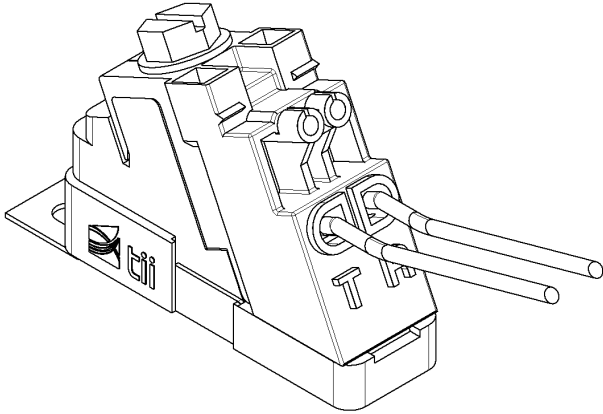

Figure 3
3. Raise driver bolt mechanism to full up position by turning the driver bolt counter-clockwise. Insert wires, confirm wires are fully inserted (Figure 3).